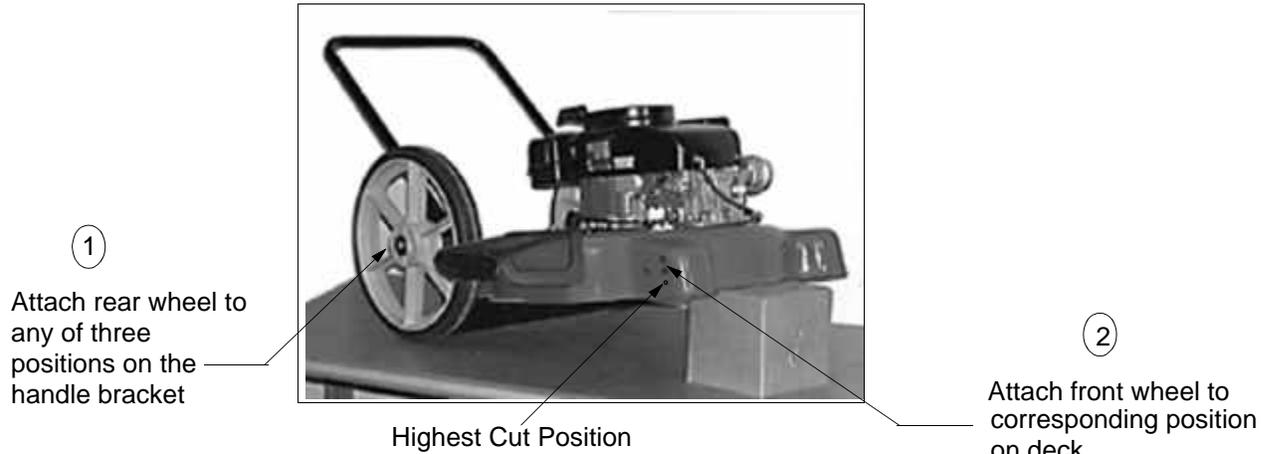

FIGURE 16
- Adjust all four wheel positions up or down by removing the wheels from the deck and reattaching to the hole above or below. See Figure 16. Remember to attach all four wheels at the same relative position.